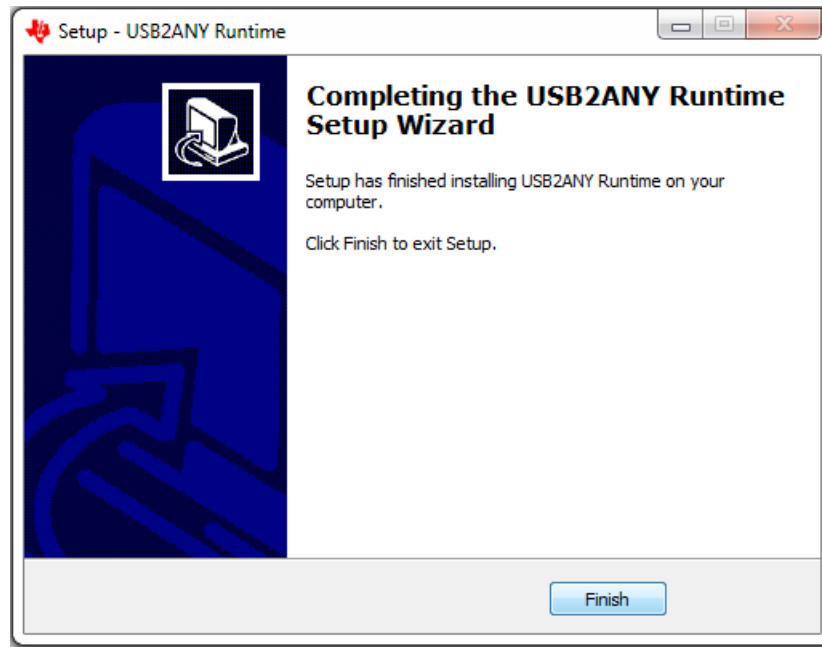

Figure 23. USB2ANY Installation Complete
14. The *USB2ANY Installation Complete* window (Figure 23) appears, indicating the completion of the USB2ANY installation. Click the *Finish* button.